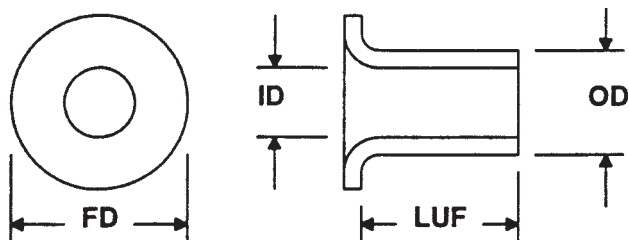

Figure 1 Drill press shown with PC board pinned in place.
3. Pin the printed wiring board to the base of a precision drill press. (See Figure 1.)